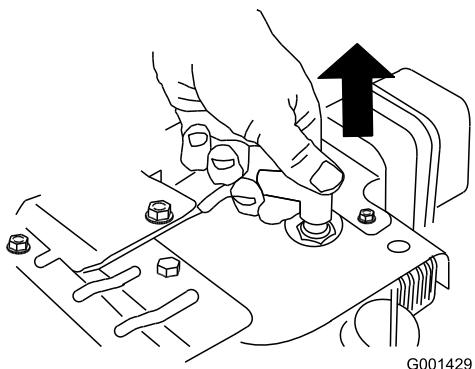

Figure 34
- Disconnect the spark plug wire (Figure 34).